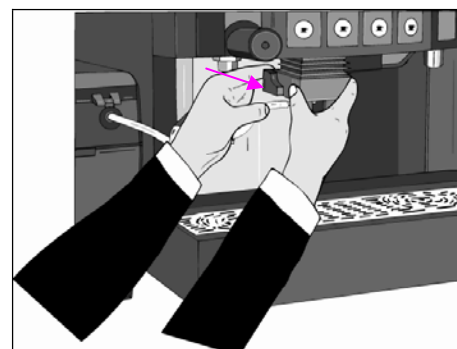
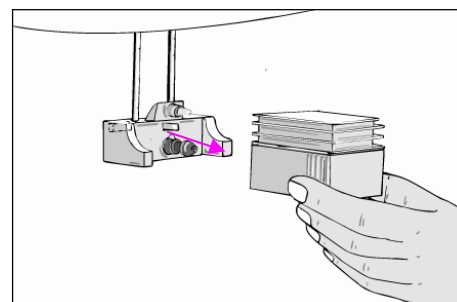

Figure 10
Figure 11
1. Press the release lever at the back of the combination spout  and pull spout forward to remove (see Fig. 10 and Fig. 11).